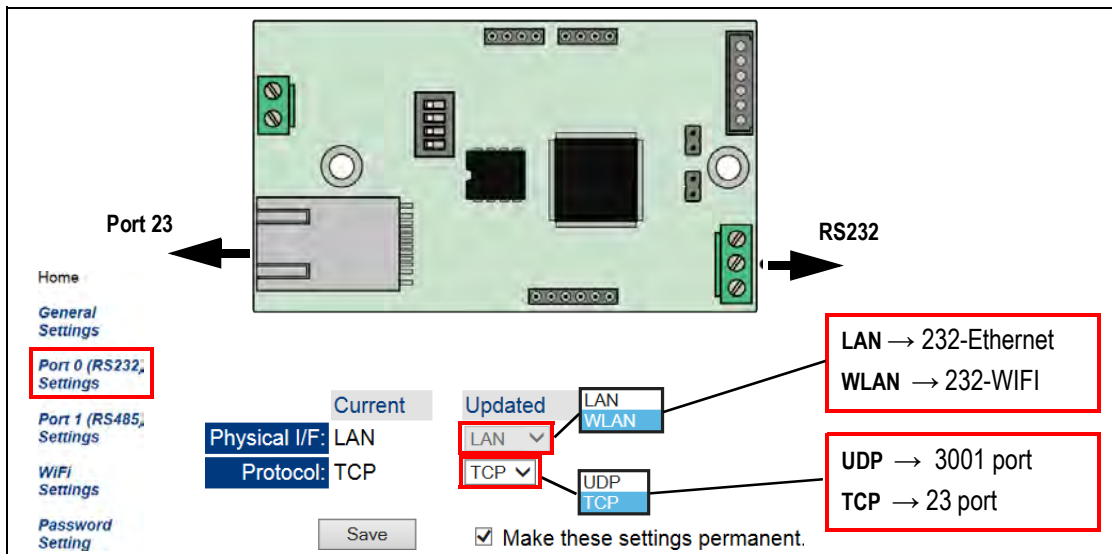
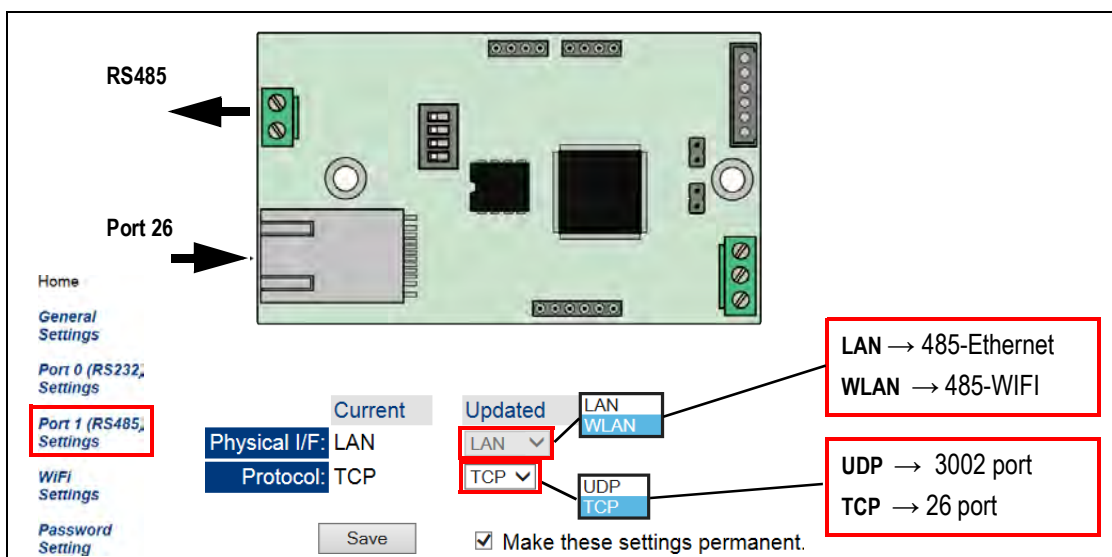

Figure 3-4. 232-LAN/WLAN Configuration
Figure 3-5. 485-LAN/WLAN Configuration
* Set Physical I/F to **WLAN**; See Figure 3-4 or Figure 3-5